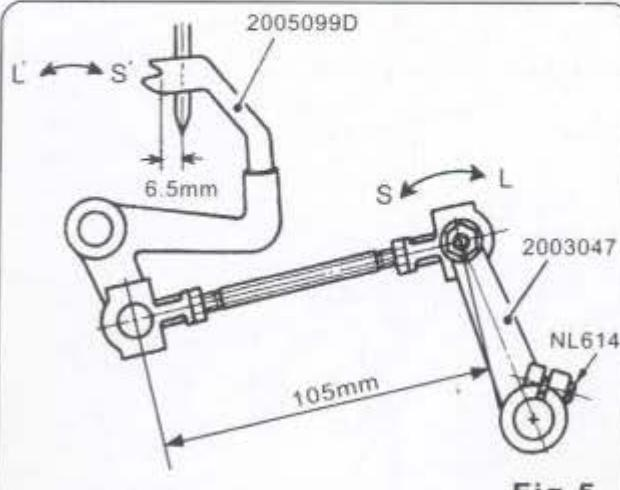

Fig.5
Turn pulley clockwise, and check the distance between needle center and the concave part of upper looper (2005099D) at the time when upper looper is at the farthest in the left. The distance must be 6.5mm as shown in (Fig. 5). If the distance is larger or smaller than 6.5mm, carry out necessary adjustments as follows; loosen screw (NL614) of drive lever for spreader (2003047), and turn the lever down (S) to move upper looper to the right (S'), or turn it up (L) to move upper looper to the left (L'). Never fail to tighten the screw (NL614) after the adjustment.
The center distance of ball joints connecting drive lever for spreader (2003047) and spreader lever (2005095) is fixed at 105mm. Keep this dimension, otherwise timing of lower looper and upper looper will get out of order (Fig. 5)